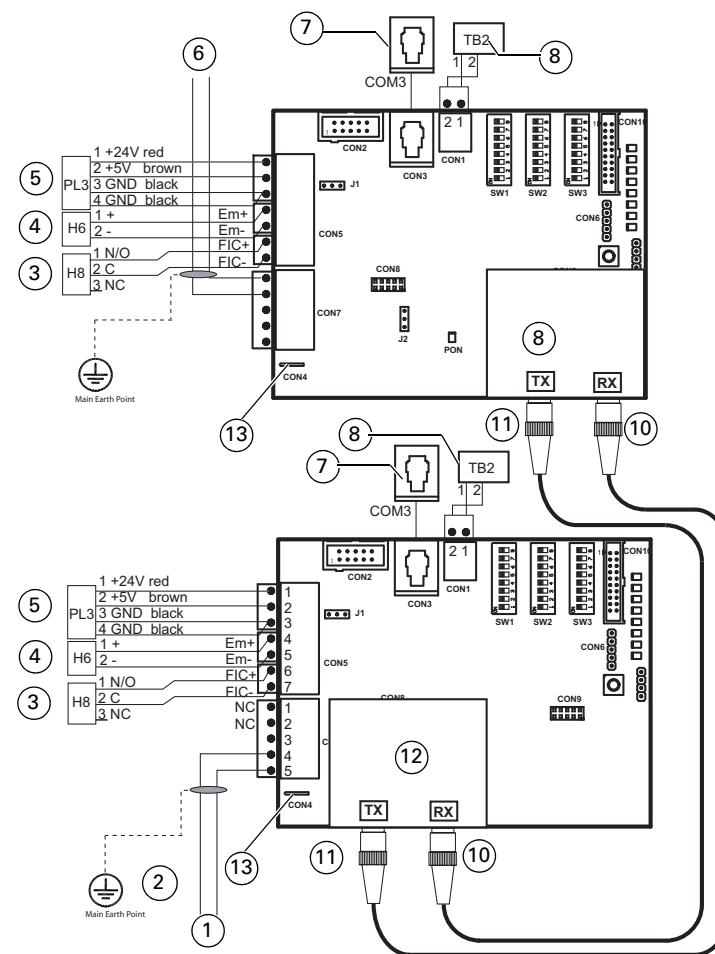

Fig. 6: Wiring diagram, RS485 network line combined with fibre optic line
- 11 Connect the Fibre optic network cabling as shown in Fig. 6 on page 11.